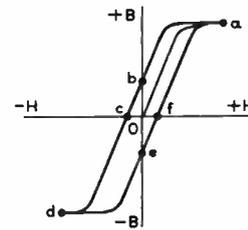

FIGURE 18
10.    In the hysteresis loop of Figure 18, **RESIDUAL FLUX** is represented by the value of flux at